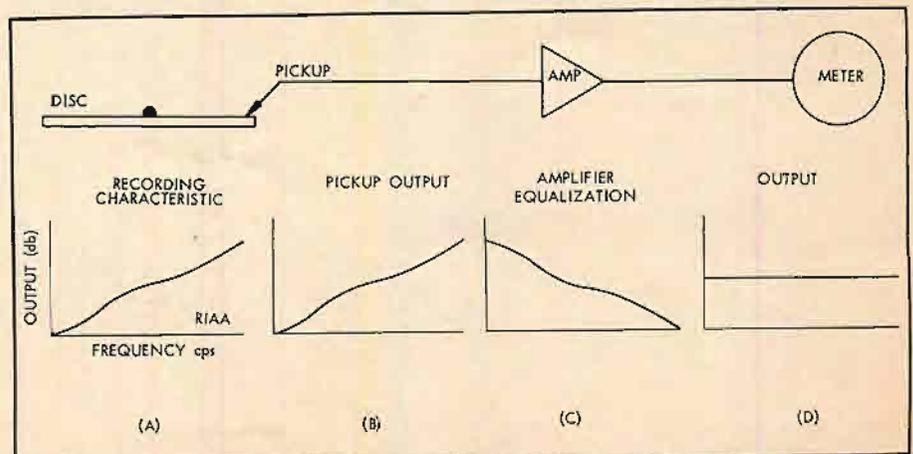

Fig. 4. Frequency-response relationships between record and amplifier output.
Why not use the RIAA characteristic? There is an argument in favor of this approach, which runs as follows (see Fig. 4): Let a test record be recorded with the RIAA characteristic, (A) of Fig. 4, then an ideal velocity-responsive pickup will reproduce this characteristic on a velocity basis, (B) of Fig. 4. The preamplifier is designed to provide an inverse characteristic (C), of Fig. 4; therefore the output of the amplifier into the loudspeaker voice coil or dummy load will be constant as a function of
frequency, (D) of Fig. 4. If this event takes place, then the over-all system is satisfactory.